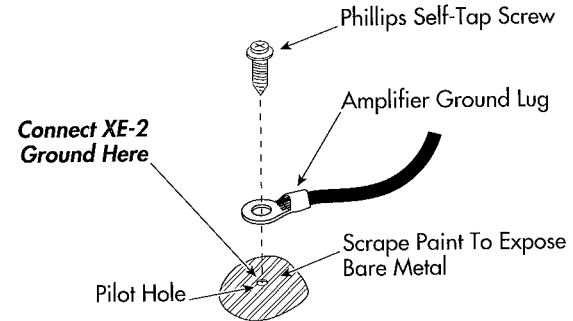

Figure 7. Example of an XE-2 ground connection.
2. Connect a short length of (black) wire to the vehicle's chassis, as shown in Figure 7.